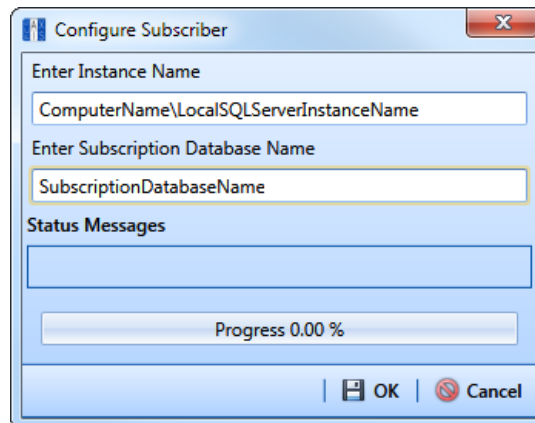

Figure 15-6. Configure Subscriber
- 2 Click **Tools > Configure Subscription** to open the *Configure Subscriber* dialog box (Figure 15-6, page 599).